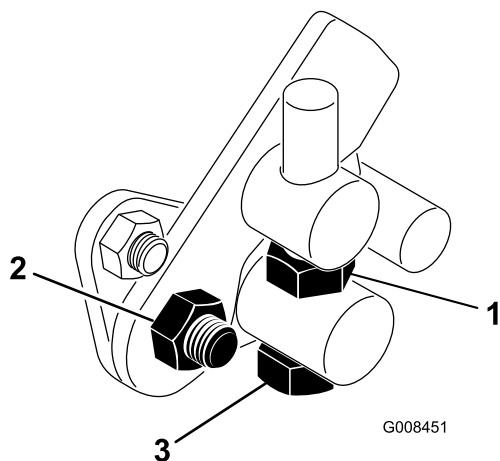

Figure 44
1. Loosen the jam nut on the trunnion bolt (Figure 44).
4. Tighten the jam nut on the trunnion bolt and the nut on the pedal pivot to lock the adjustment (Figure 44). Check the adjustment and adjust as required.
1. Remove the radiator screen (Figure 44).